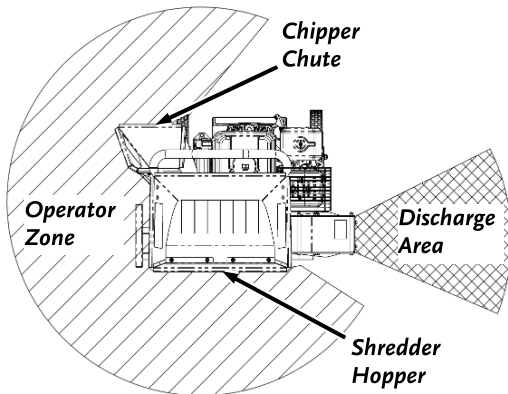

Figure 8
- ALWAYS operate the DR CHIPPER SHREDDER from the Operator Zones (**Figure 8**).